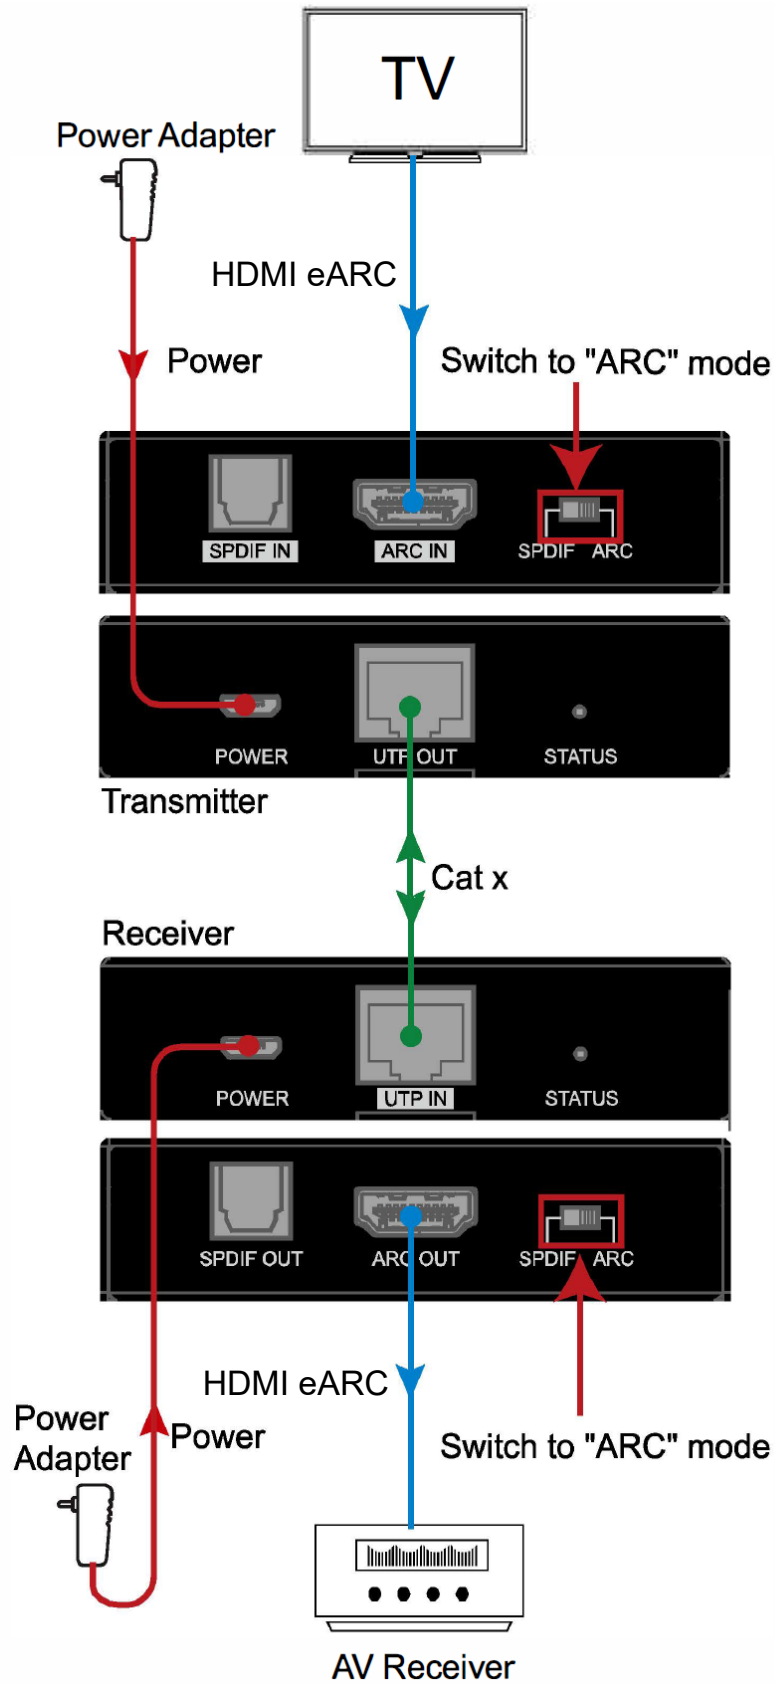

Figure 1: Wiring option 1, ARC
8. Power on all devices. The audio signal of TV through ARC IN port will be transmitted to the AV receiver connected to ARC OUT Port of receiver. (See Figure 1)